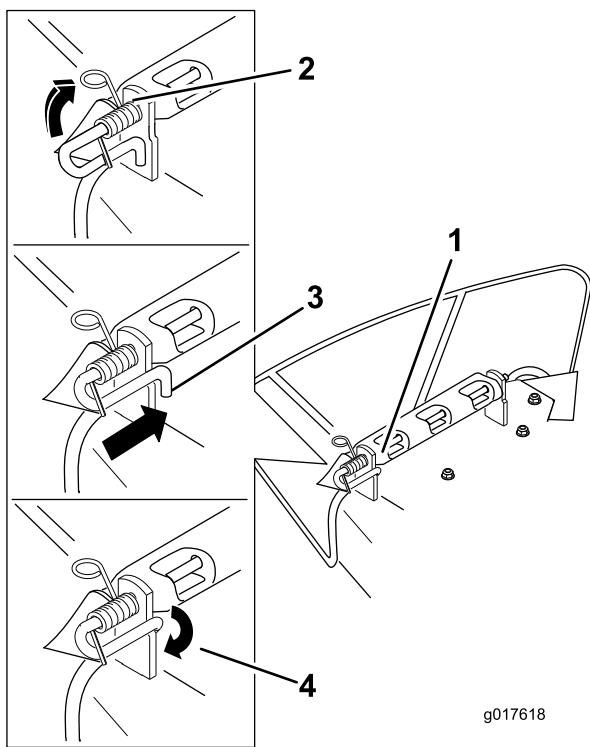

Figure 63
4. Lift the loop end of the spring and place it into the notch on the deflector bracket (Figure 63).
5. Secure the rod and spring assembly by twisting it so the short end of the rod can be placed behind the front bracket welded to the deck (Figure 63).